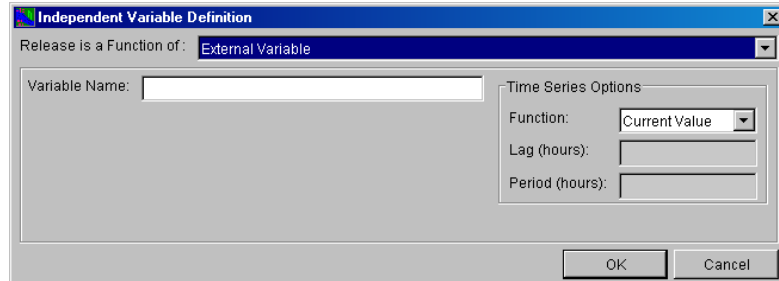

Figure 11.14 Reservoir Editor--Operations Tab: Release Function Rule, Defining an External Variable as the Independent Variable
- If the function type is **External Variable**, identify the independent variable in the name field (Figure 11.14). This name will appear on the time-series tab of the Alternative Editor (see Chapter 13, Section 13.7).